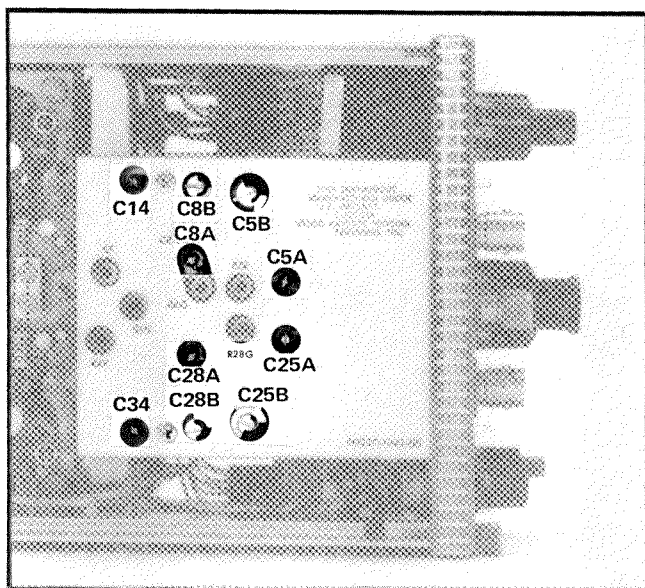
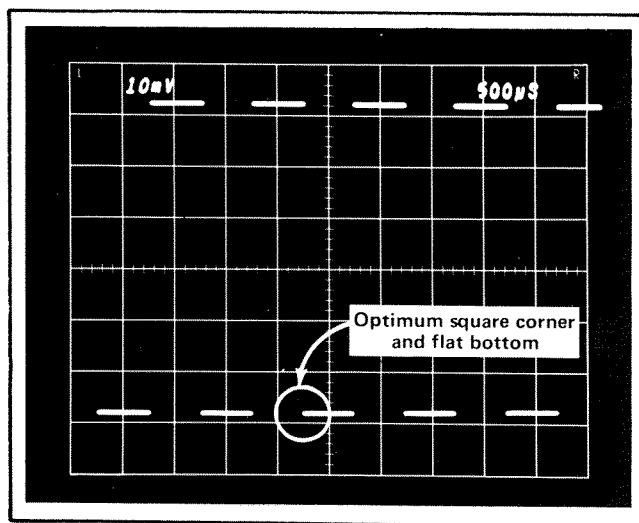

Fig. 5-13. Adjustment locations used in the Attenuator Compensation Adjustment procedure.
Fig. 5-14. Checking for optimum – INPUT waveform at sweep rate of 0.5 ms/div.
Fig. 5-12B through 5-12E are some waveform examples obtained when the adjustments were misadjusted. Fig. 5-13 shows the location of the adjustments.
h. CHECK—The waveform should have a flat bottom as illustrated in Fig. 5-14. Aberrations should not exceed ±1% or ±0.06 division for a 6 division peak-to-peak display.
i. ADJUST—The – INPUT shunt capacitance C34 and the attenuator adjustments listed in Table 5-6 for a square lower front corner and flat bottom (see Fig. 5-14). The procedure used here is similar to the procedure used in performing step 18. Fig. 5-13 shows the locations of the adjustments.